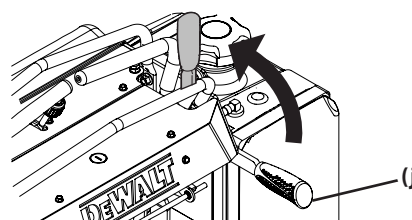

Figure 4
6. To engage the parking brake, pull back completely on the parking brake lever (j) See Figure 4.